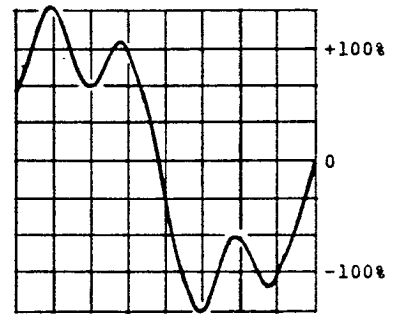

Fig. 8c (1900Hz)
- STEP 4 Increase the generator frequency to approx. 1900Hz, fine-tuning for the highest p-p waveform amplitude (Fig. 8c).